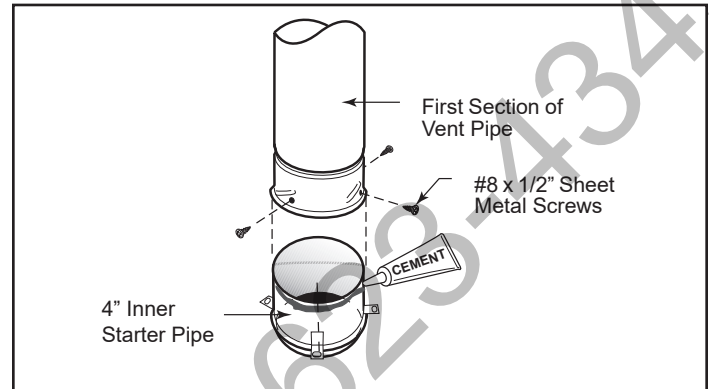

Figure 17 - Connect the inner starter with the next section of inner vent pipe.
- Drill three pilot holes into the Inner Starter and secure the assembly with three sheet metal screws. (Figure 17)